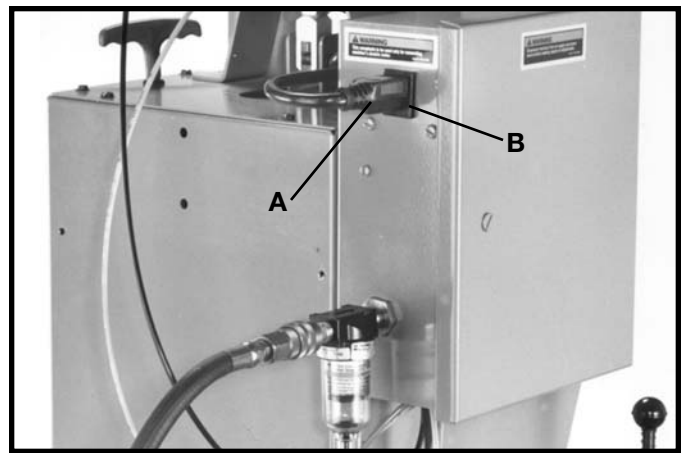

Fig. 46
1. Plug the motor cord (A) Fig. 46, into outlet (B) located on rear of the air and electric control box as shown.
CAUTION: DO NOT USE THIS RECEPTACLE OUTLET (B) FIG. 46, FOR ANY OTHER ELECTRICAL USE OTHER THAN THE UNIT MOTOR.